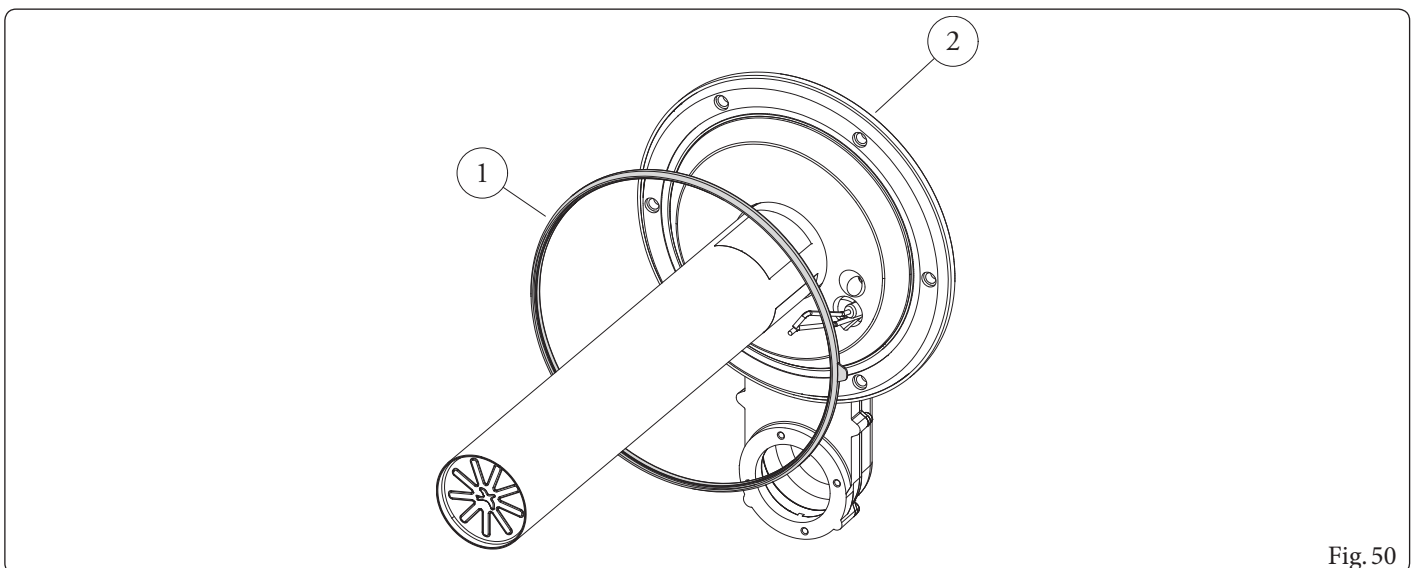

Fig. 50
Position the module gasket (1) on the manifold (2) as shown in Fig. 50.